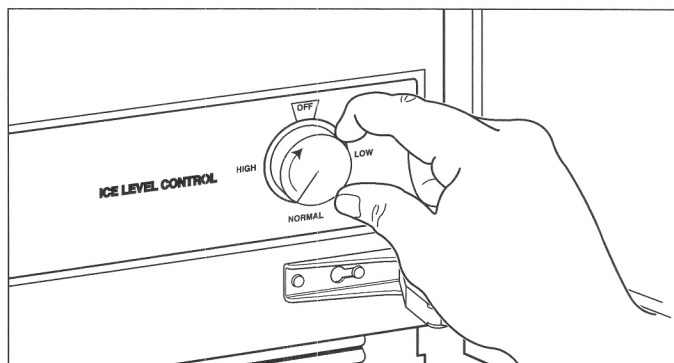

Figure 4-16. Increase Ice Level
2. To increase the ice level, turn the control knob clockwise. Usually 1/8 turn will be enough. (See Figure 4-16)